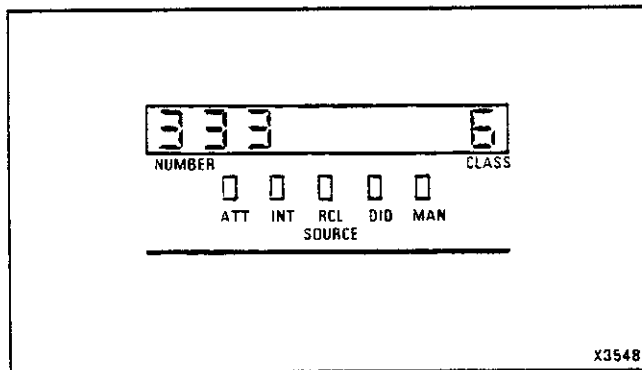

Fig. 2-1 Single Customer Display
2.03 Where several customers (tenants) share one PABX then the test procedures to be performed (listed in Tables 2-1, 2-2, 2-3 and 2-4) are in respect to the "Non-Hotel/Motel" options, i.e. they are the same as for a single customer configuration. It should be noted however that the console SOURCE and DESTINATION displays, during the test procedures, will reflect the fact that a multi-tenant configuration is in effect. These displays will show the "tenant" digit which prefixes the extension number. A typical example of this difference is illustrated in Figs. 2-1 and 2-2, respectively showing a single customer extension display, and a display which indicates that the calling extension (333) forms part of Tenant group 2.